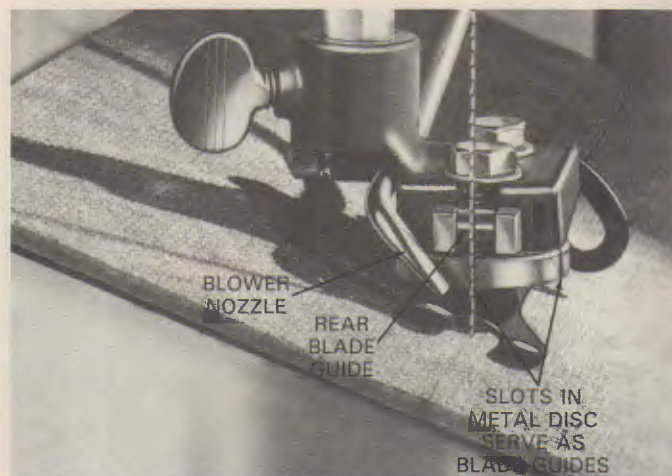

Fig. 21-50. The scroll saw blade is controlled by blade guide slots in a metal disk and a rear guide. (Delta)
7. Align the blade with the slot in the blade guide, Fig. 21-50.